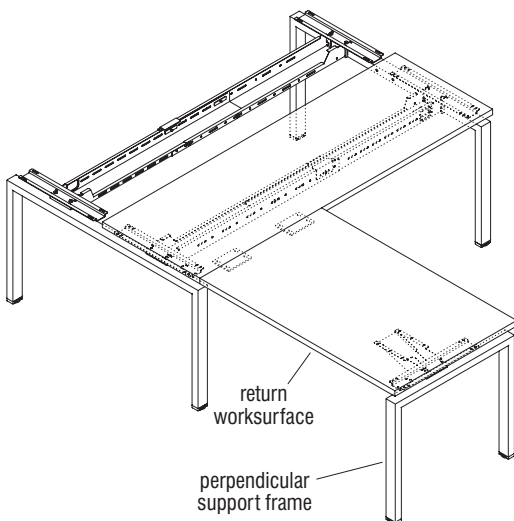

Figure 1 - Dual-Sided Fixed, Return Worksurface to Standard Rectangular
Note: A "perpendicular support frame" consists of a "cantilever worksurface support bracket" installed to the top of an end leg with a fixed worksurface bracket. The section to follow (Detail A & Figures 1 through 3) illustrate the assembly of a perpendicular support frame and its various uses. Your configuration may vary.
2. Next, install a fixed worksurface bracket to the beam-mount bracket using two M8 x 20mm hex-drive screws. This bracket will support the "return" or "extended-corner" worksurface and hold the cantilever bracket in place (Detail A & Figures 1, 2 & 3).